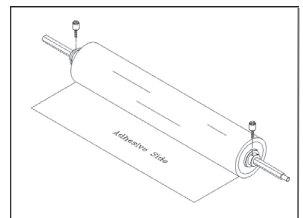

Figure 11
5. Center the film on the shaft and lock it in place with the locking core adapters. (Fig. 11)